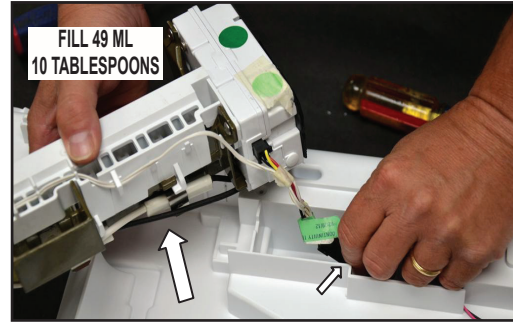

FIGURE 37
- Lift out ice maker and disconnect the wire harness. See *Figure 37*.